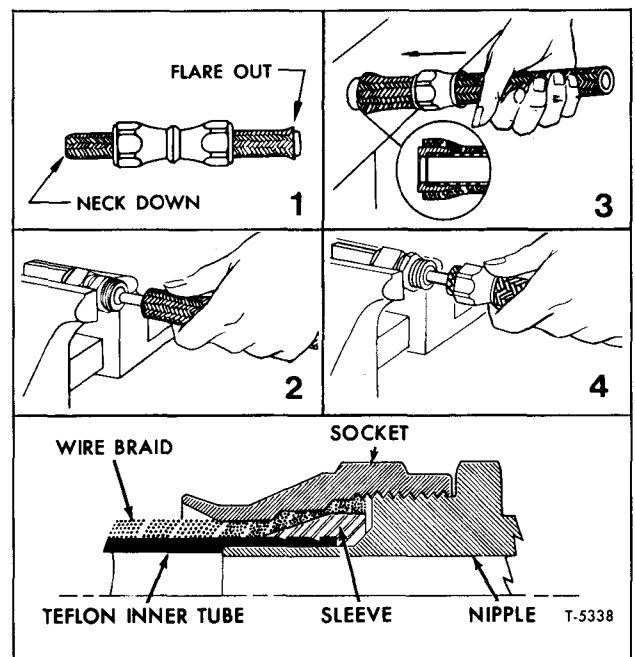

Figure 7—Teflon Hose Assembly
Refer to figure 7 for sectional view of teflon hose.
2. Remove tape and trim any loose wires flush with the tube stock. Any burrs on the bore of the tube stock should be removed with a knife. Sometimes wire braid will tend to "neck down" on one end and "flare out" on the opposite end. This is a characteristic of wire braid hose and can be used to an advantage in the assembly of the fittings (item 1, fig. 7).
3. Slip two sockets back-to-back over the "neck down" end of the hose. Position the sockets approximately 3 inches from each end (item 1, fig. 7).
4. Mount nipple hex in a vise. Work the hose bore over the nipple to size the tube and aid separating the braid from the teflon inner tube. Remove the hose from the nipple (item 2, fig. 7).
5. Push the sleeve over the end of the inner tube and under the wire braid by hand. Complete positioning of the sleeve by pushing the hose end against a flat surface (item 3, fig. 7).
8. Hold nipple hex in a vise. Push the hose over the nipple with twisting motion until seated against the nipple chamfer (item 4, fig. 7).